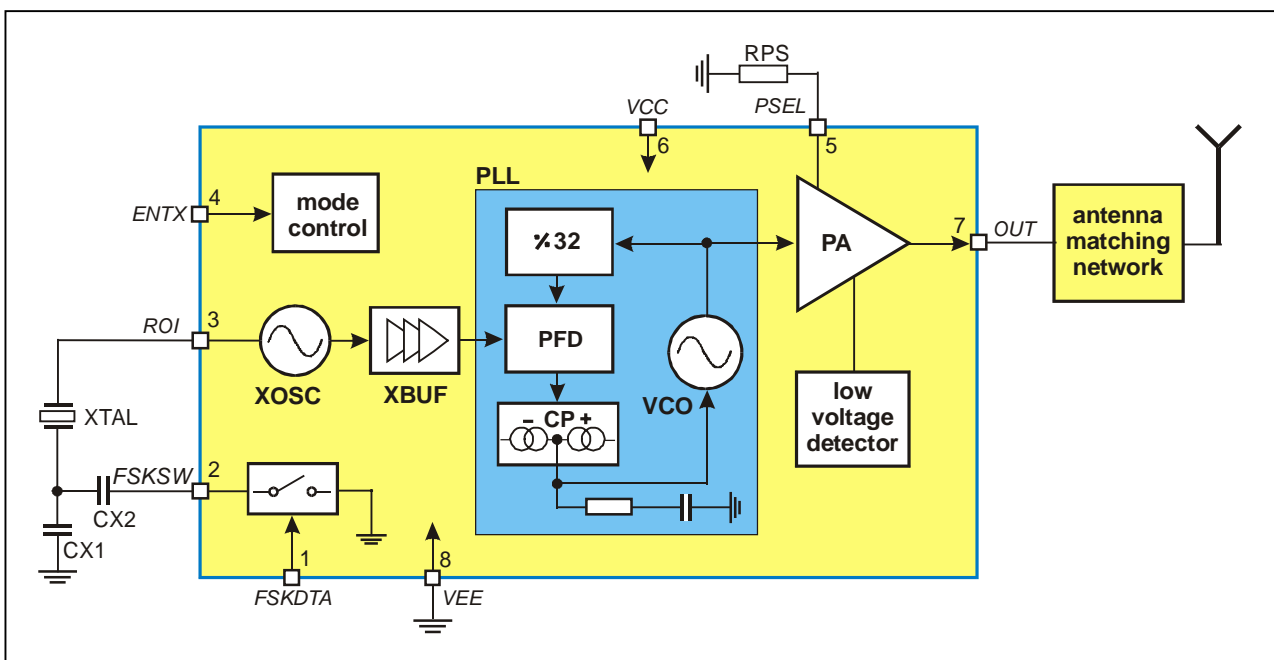

Fig. 1: Block diagram with external components
As depicted in Fig.1, the TH72011 transmitter consists of a fully integrated voltage-controlled oscillator (VCO), a divide-by-32 divider (div32), a phase-frequency detector (PFD) and a charge pump (CP). An internal loop filter determines the dynamic behavior of the PLL and suppresses reference spurious signals. A Colpitts crystal oscillator (XOSC) is used as the reference oscillator of a phase-locked loop (PLL) synthesizer. The VCO's output signal feeds the power amplifier (PA). The RF signal power  $P_{out}$  can be adjusted in four steps from  $P_{out} = -11$  dBm to  $+10$  dBm, either by changing the value of resistor RPS or by varying the voltage  $V_{PS}$  at pin PSEL. The open-collector output (OUT) can be used either to directly drive a loop antenna or to be matched to a 50Ohm load. Bandgap biasing ensures stable operation of the IC at a power supply range of 1.95 V to 5.5 V.